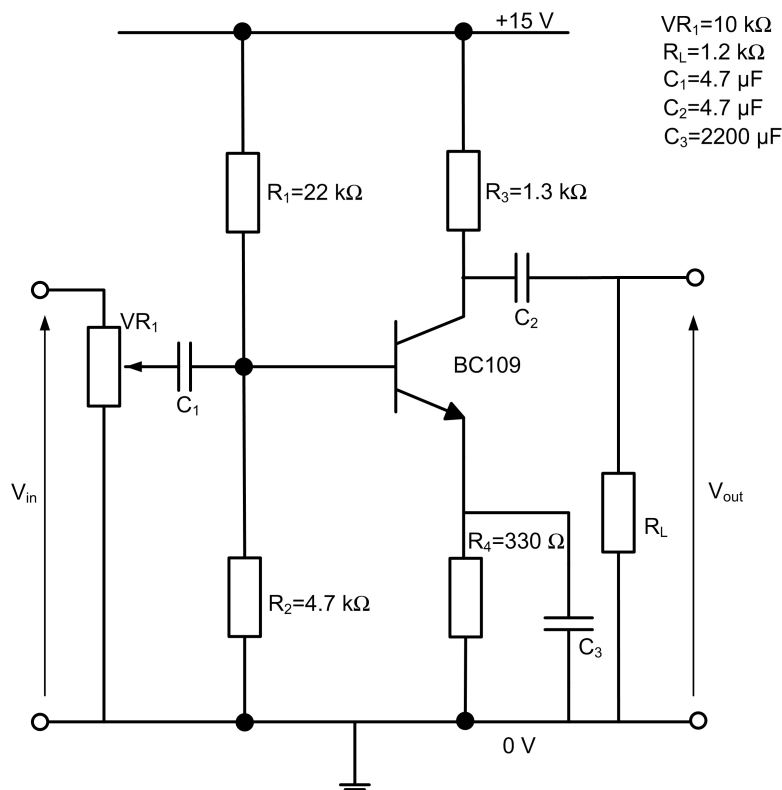

Figure 3: Circuit for part II
Capacitors block DC currents but allow higher frequency signals to pass. For the amplifier of Figure 3 capacitor  $C_1$  blocks DC offsets from any input circuit,  $C_2$  prevents the DC offset of the transistor from affecting later output parts of a circuit and  $C_3$  bypasses  $R_4$ , allowing larger gains.
- Add capacitors to your circuit so it has the configuration shown in Figure 3
- Add a load resistor  $R_L$ , as shown on Figure 3 (make sure it is connected to the negative (common) line).